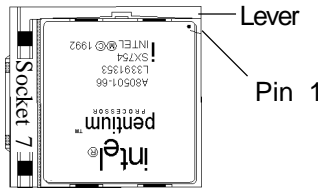

Figure 2-3 Inserting a CPU into Socket 7
2. Pull up the lever of Socket 7 so that it is perpendicular with the surface of the motherboard. Gently insert the CPU with Pin 1 at the same corner of Socket 7 that contains the end of the lever. Allow the weight of the CPU to push itself into place. Do not apply extra pressure as doing so may result in damaging your CPU. Snap the lever back into place. See Figure 2-3.